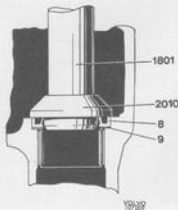

Fig. 6-98. Fitting sealing ring
9. Tighten up the housing (4) with the neck facing downwards. Fit the washer (8) in the housing. Fit the sealing ring (9) with the sealing lip facing upwards. Use tools 2010 and 1801, see Fig. 6-98.
10. Oil the O-ring (28) and fit it on together with the other O-rings in position in the cover with